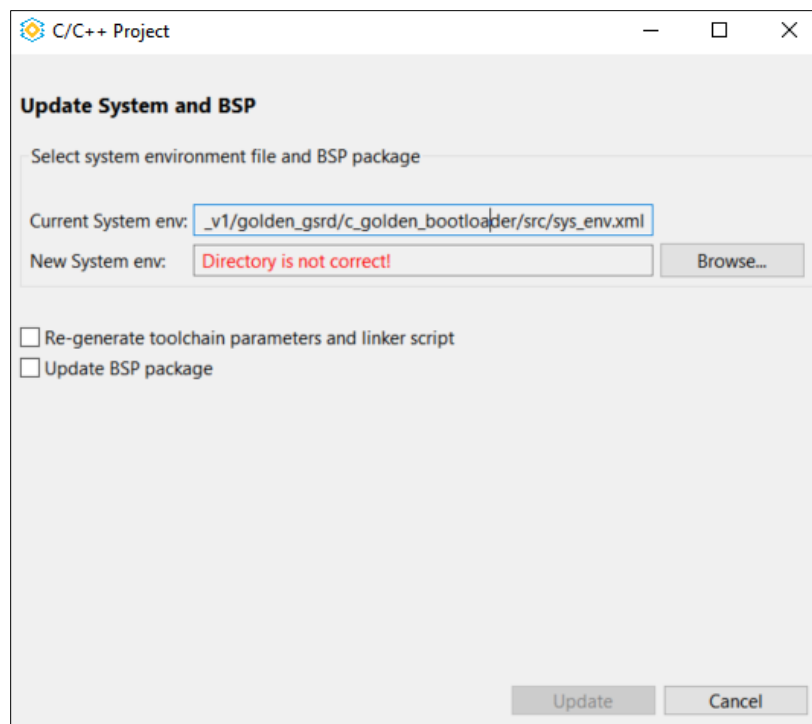

Figure 8.2. New System ENV Error
- In Propel SDK, right-click on the software project that you are working on and select **Update Lattice C/C++ Project**. In the **Update System and BSP** dialog box, you may observe a **Directory is not correct!** error as shown in Figure 8.2. This is because the software project is created in another PC with a different system environment path when the project is imported to Propel SDK.